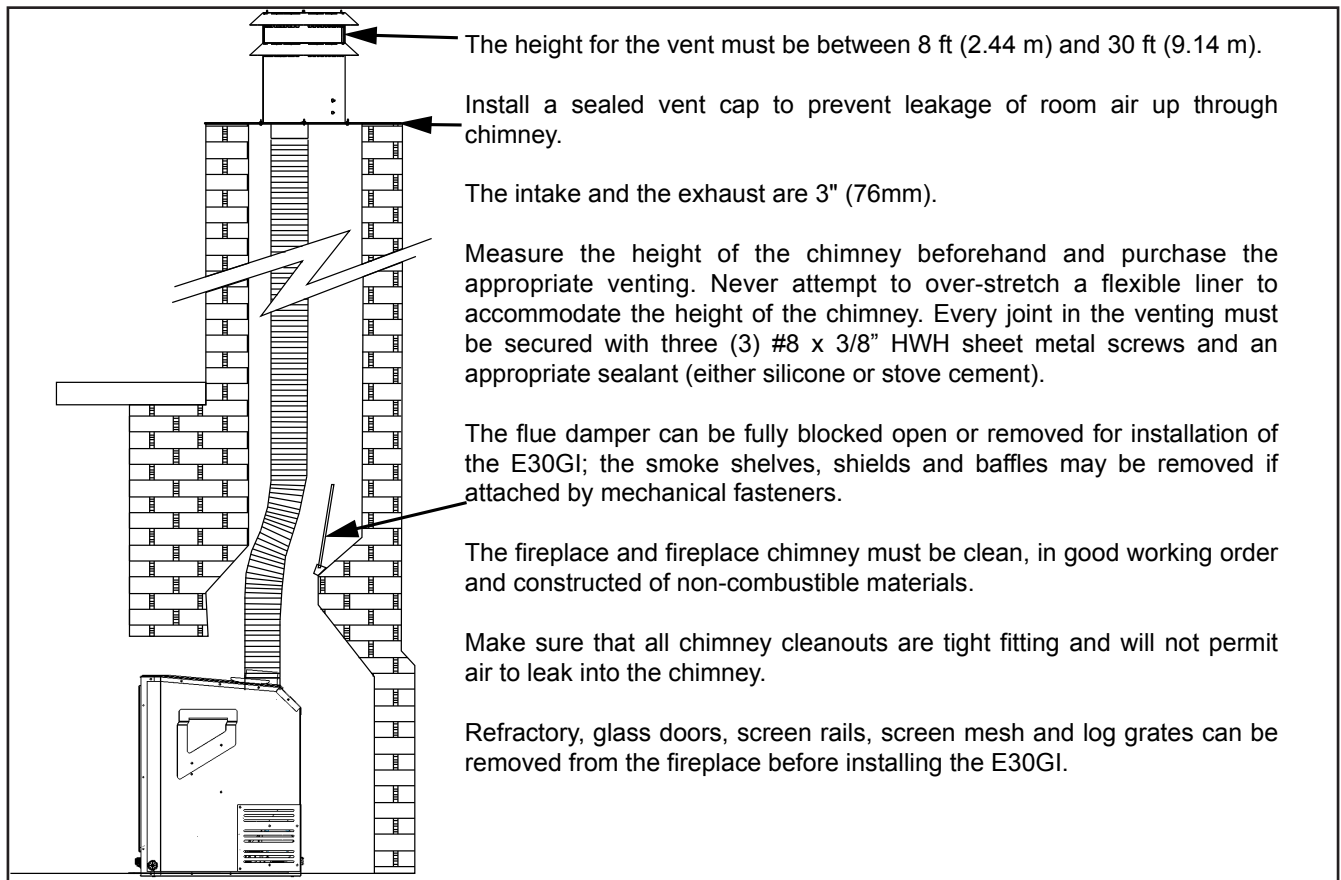

Figure 25: Installation of NF30GI DV .
1. Plan your installation and clearances to combustibles. The NF30GI may be installed and vented into any solid fuel fireplace that has been installed in accordance with the National, Provincial/State and local building codes and has been constructed of non-combustible materials. Also refer to the INITIAL INSTALLATION - PREPARING YOUR NF30GI FOR INSTALLATION and CLEARANCES TO COMBUSTIBLES sections. Refer to Figure 25 throughout installation.